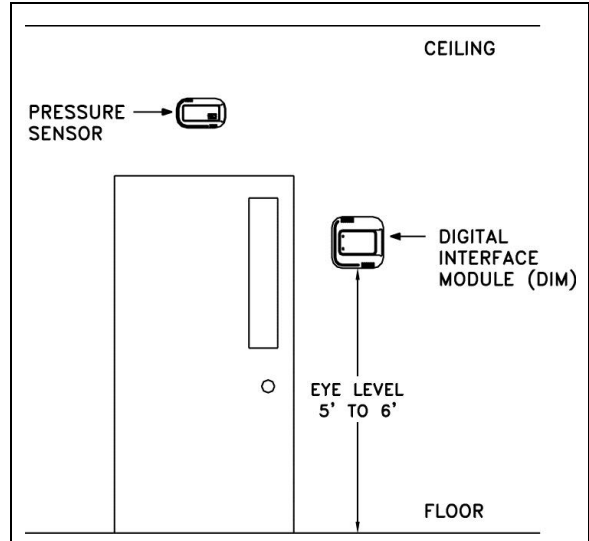

Figure 5: Pressure Sensor and DIM Typical Installation
The Pressure sensor (P/N 800326) is typically installed above the main entrance to the laboratory (Figure 5).
1. Determine pressure sensor location (Figures 5 and 6). Pressure sensor typically mounts in the reference space, and the dummy housing mounts in the laboratory.